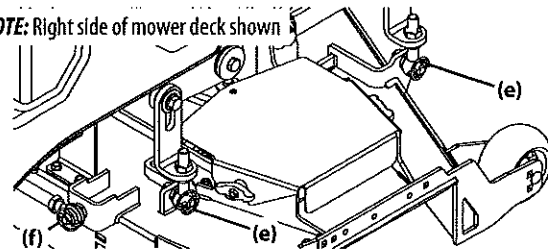

Figure 30
4. Remove the four lynch pins (e) that secure the deck to the deck lift assembly. See Figure 30.
5. Remove the lynch pin (f) securing the rear stabilizer bar to the rear, right side of the deck. See Figure 30.